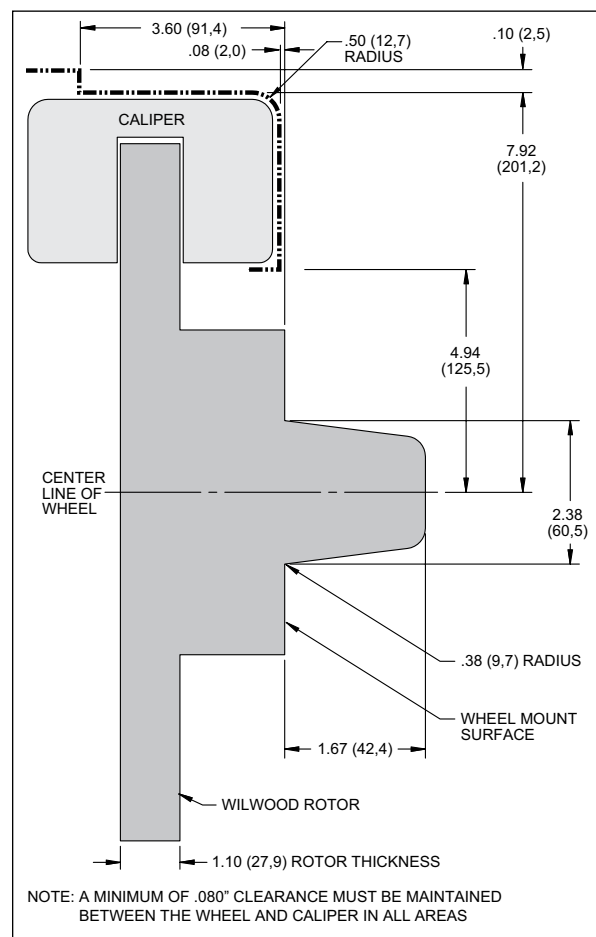

Figure 2. Wheel Clearance Diagram
- Review the wheel clearance diagram (Figure 2, page 4) to verify that there is adequate clearance with the wheels you will be using with the installation.
- Verify your wheel clearance using Figure 2.